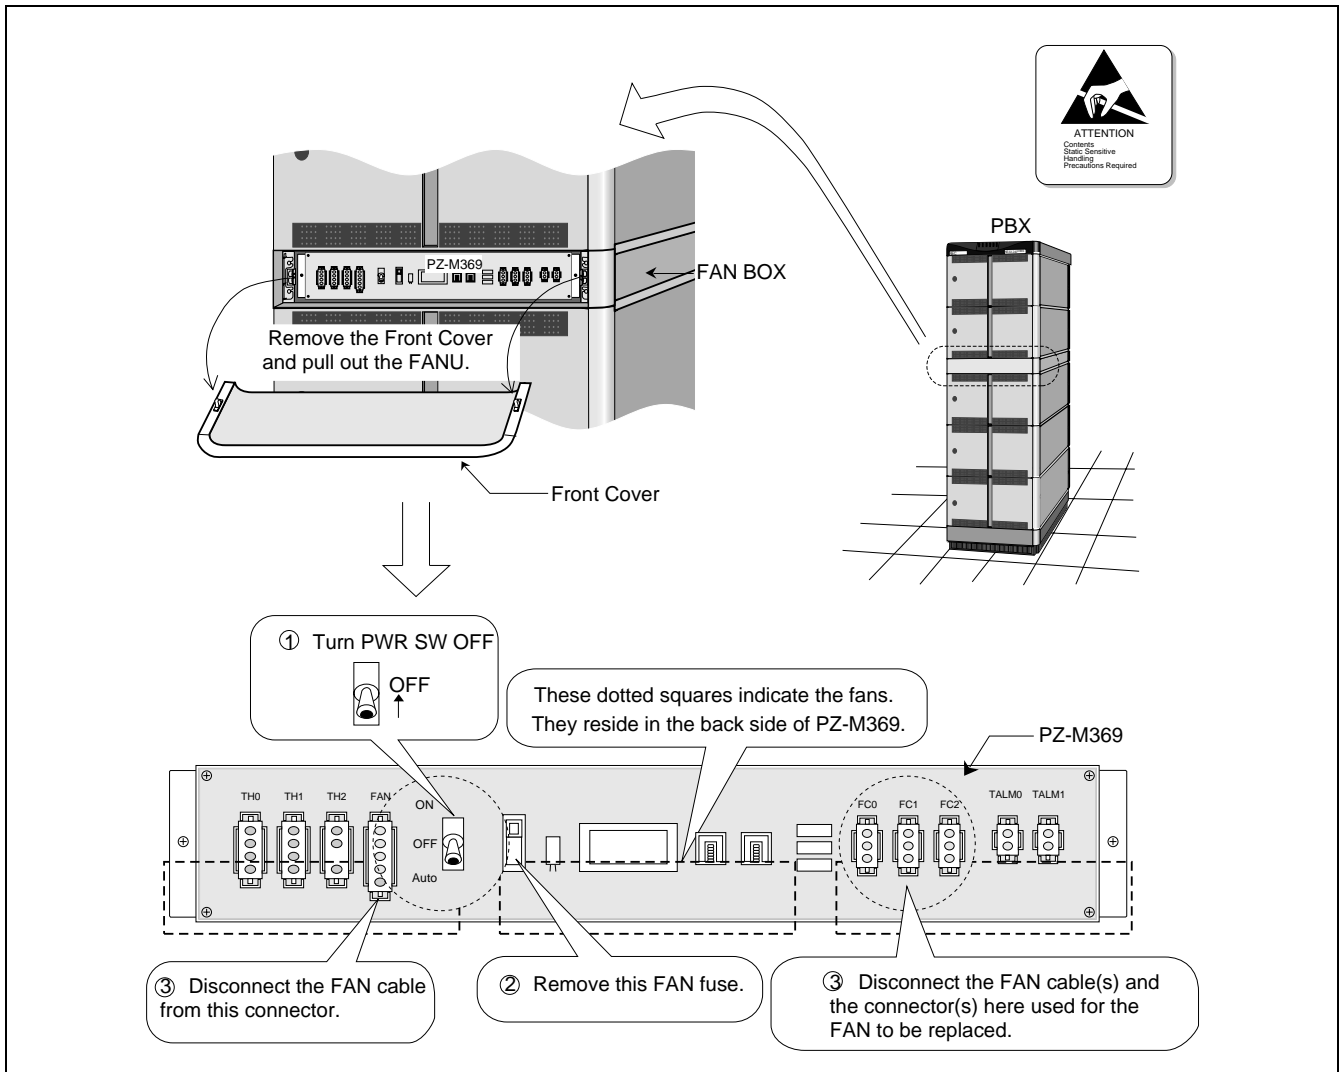

Figure 4-20 Preparation for FANU Replacement (Fans in Fan Box)
- STEP 2 Turn OFF the PWR SW on the PZ-M369. (Refer to Figure 4-20.)